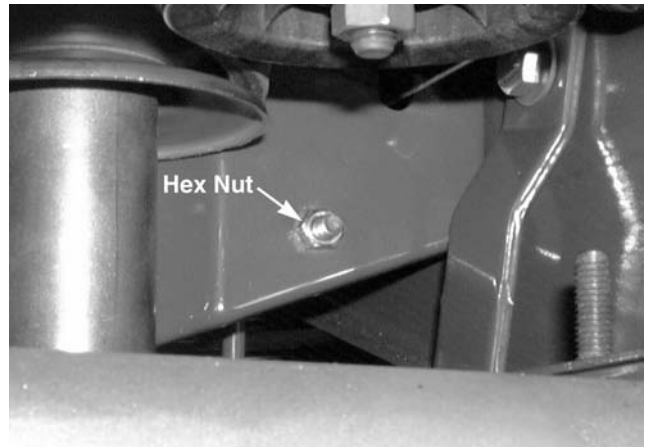

Figure 8-33.
12. Loosen the hex nut and lock washer that secures the right side of the half circle belt keeper to the frame using a 7/16" socket and a 6" extension. See Figure 8-33.